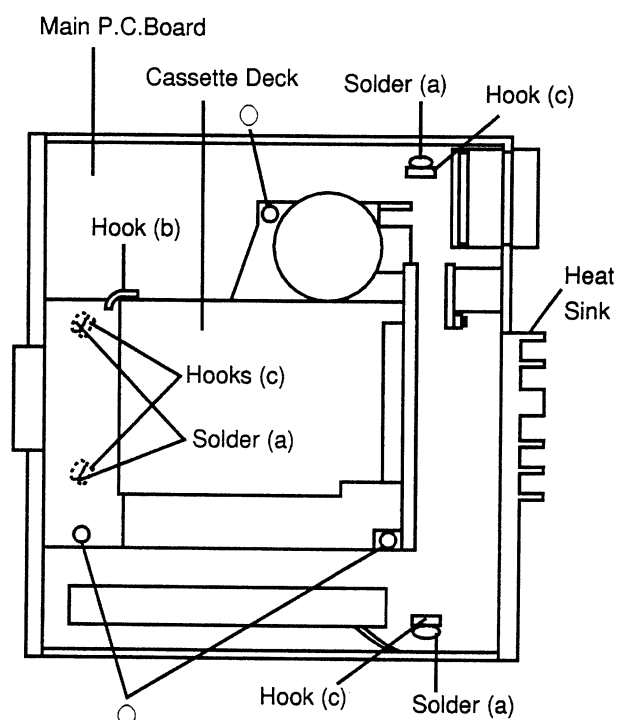

Figure 2
- (1) After removal of Front Escutcheon, remove three screws marked "○" and the Hook (b) as shown in Figure 2.
- (2) Disconnect one Connector from the Cassette Deck.